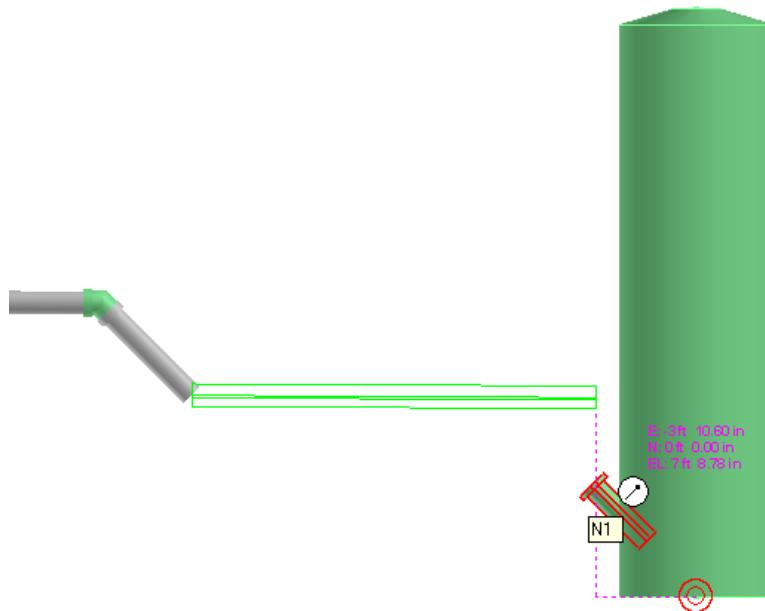

Figure 16: Pipe Extended Until the Nozzle of the Catch Basin
27. Now, select **Elevation Plane: East-West** from the **Plane** drop-down list and select the **Lock Slope** option on the **Route Pipe** ribbon to constrain the routing to the minimum slope value. Move the cursor to the piping nozzle of the catch basin, as shown in Figure 16, to add it to the SmartSketch stack.